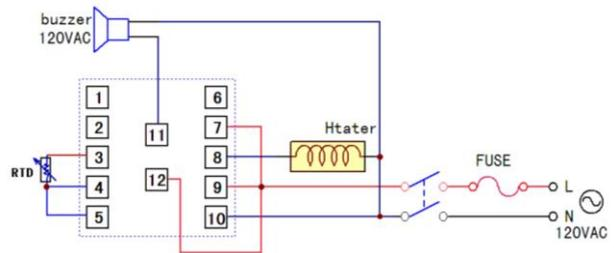

Figure 13:ITC-100RH Wiring diagram
1. Connect sensor: the sensor in figure 13 and 14 are both three lines RTD sensors. Their connection method are the same. Red wire is for COM3, other two blue wires are for COM4 and COM5 (two blue wires can exchange COM port with each other).
2. Connect alarm: ITC-100RH and ITC-100VH's alarm control output are the same. COM12 is the power input port for alarm, which should connect with phase line (L). COM11 is alarm control output port, which should connect with alarm. The other line of the alarm should connect with the null line.
3. Connect heating tube: ITC-100RH controls heating tube by its internal relay. COM7 of the instrument connect with the power input port, which should connect with phase line (L). COM8 is the control output port, which should connect directly with the heating tube. The other wire of the heating tube should connect with null line (N); TC-100VH output DC12V voltage as control signal, driving SSR to control heating tube. COM8 of the instrument output positive voltage, which should connect with SSR's positive pole; COM6 of the instrument output negative voltage, which should connect with SSR's negative pole. The polarity should not be inversely connected.